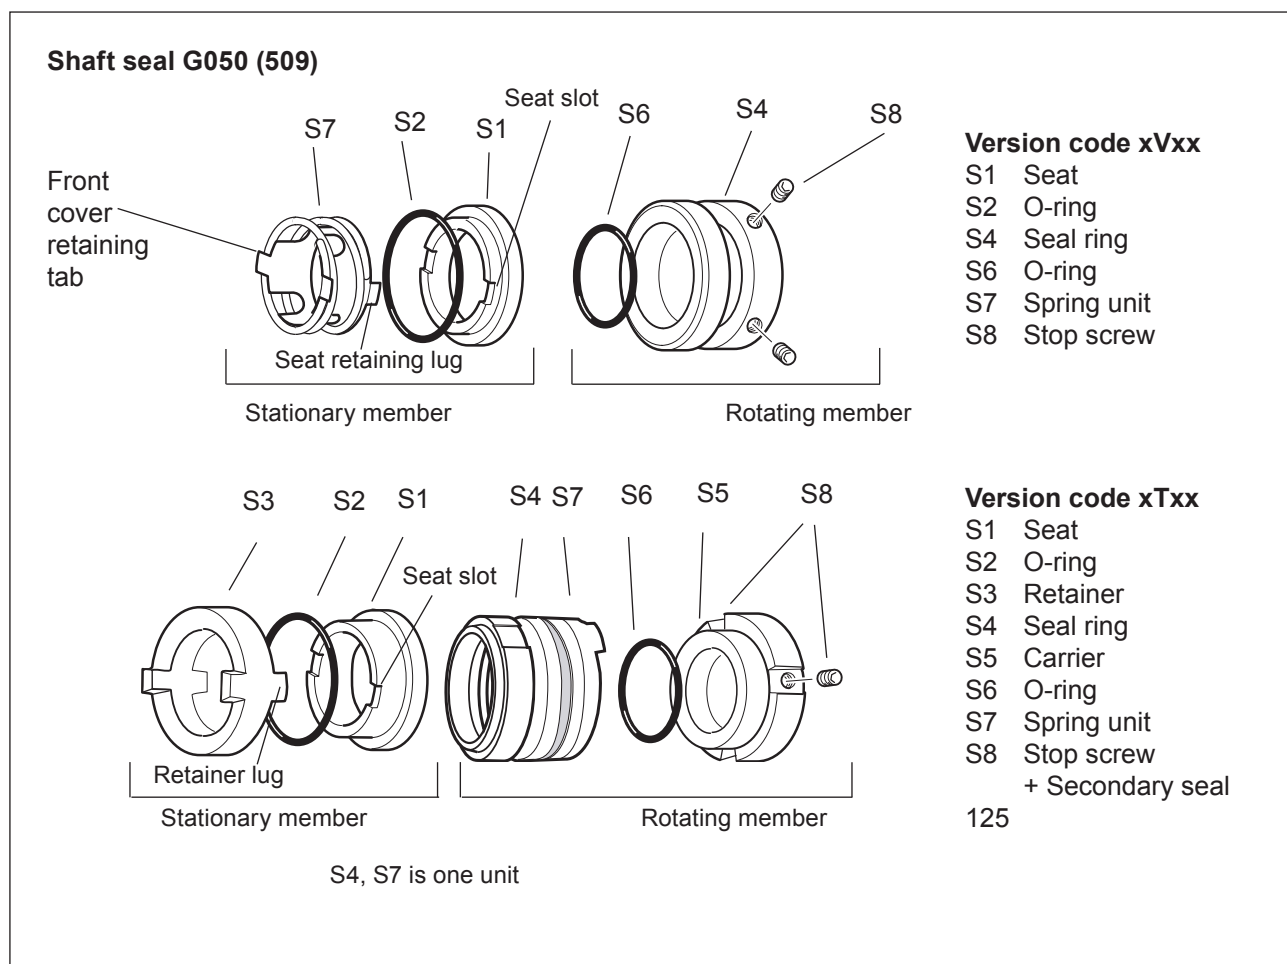

Fig. 4
- Fit the spring unit S7 in place. Note the position for the Seat slots and lugs. (See fig 4.)
- Lubricate the O-ring S2 and put it on the seat S1. Fit the seat S1 on top of the spring unit. Watch position of the Seat slots and lugs. (See fig 4.)
- Fit the retainer S3 in place. Note the position for the retainer lugs and cover slots. (See fig 4.)
- Lubricate the O-ring S2 and put it on the seat S1. Fit the seat S1 on top of the retainer. Watch the position of the seat slots and lugs. (See fig 4.)